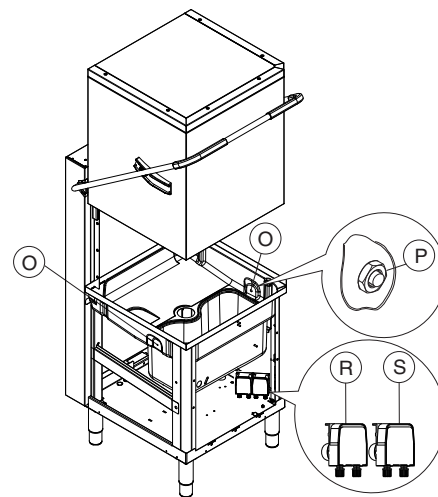

Figure 20 Automatic dispenser arrangement
1. Dishwasher with incorporated detergent dispenser (Figure 20).
2. Dishwashers with incorporated peristaltic rinse-aid dispenser (Figure 20).
Connections for automatic detergent dispenser (Figure 20)